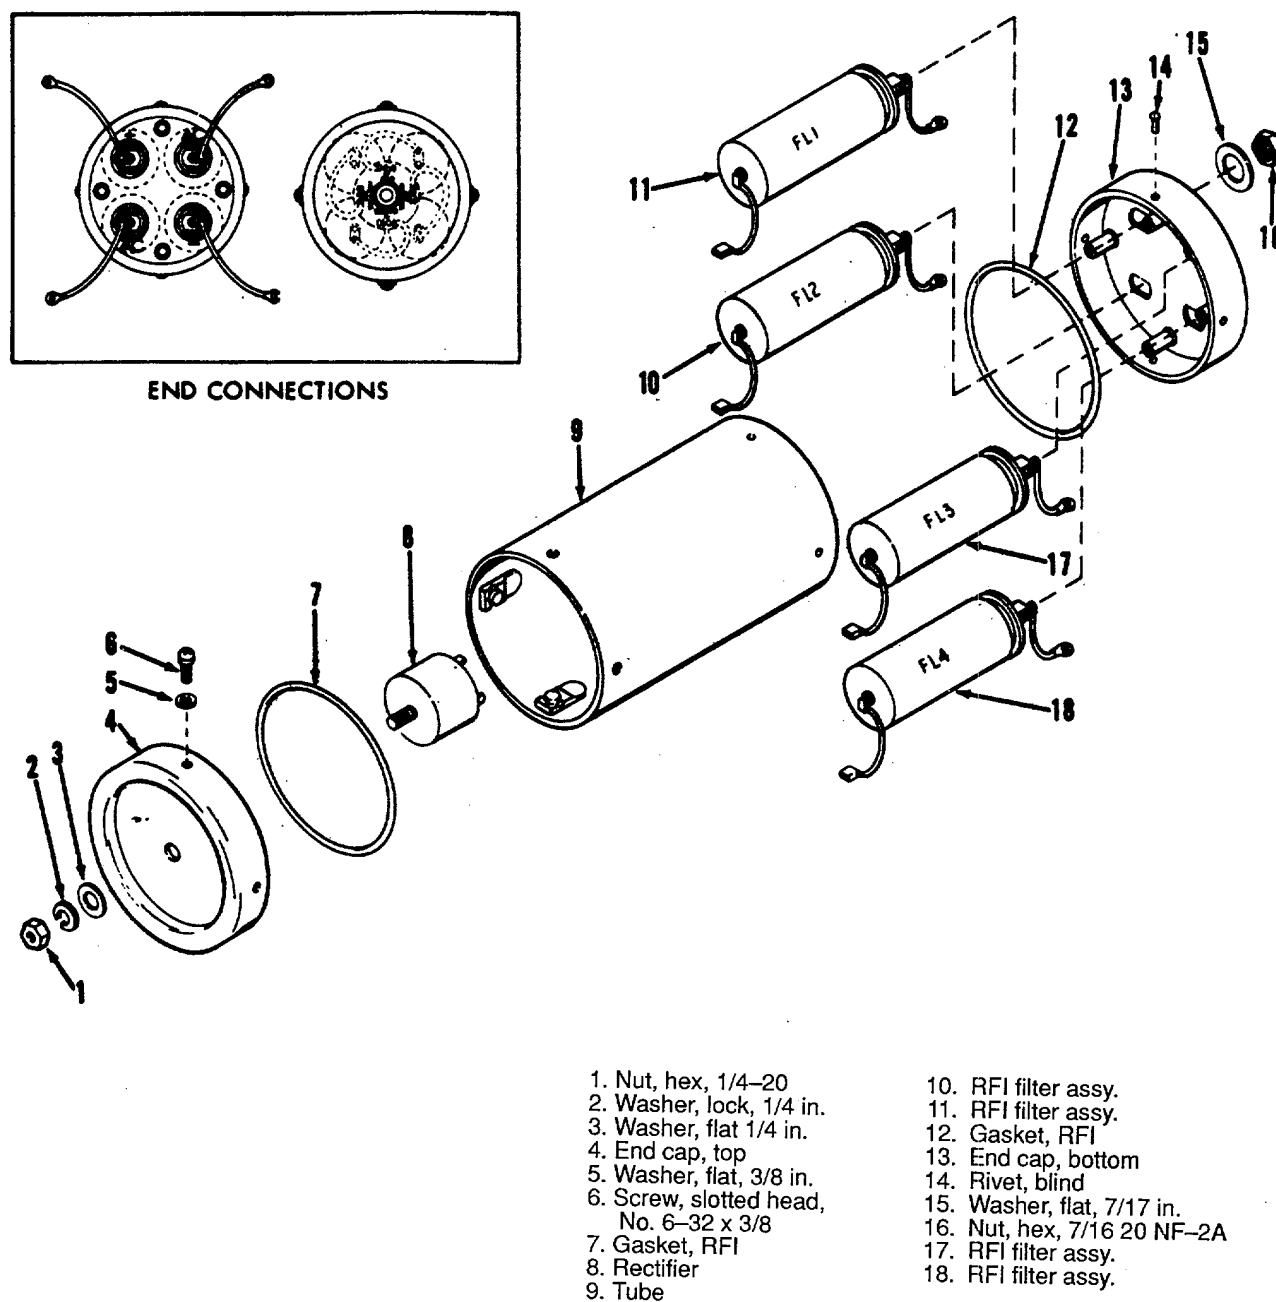

Figure 4-2. Interference Suppression Components F60T-2-127
**b.** Disassemble the filter assembly as directed in the following steps. (See figure 4-2).
- (1) Remove four screws (6) and four washers (5) from the top end cap (4), and carefully pull the end cap away from the tube (9) far enough to expose the wires connected to the rectifier (8). Tag wires for identification.
- (2) Slide wire terminals from the rectifier terminals, and set the end plate aside.
- (3) Slide the filters (10,11,17,18) out of the tube if testing indicates need for replacement.
- (4) Unsolder wires from a defective filter, and solder the same wires to a new filter.